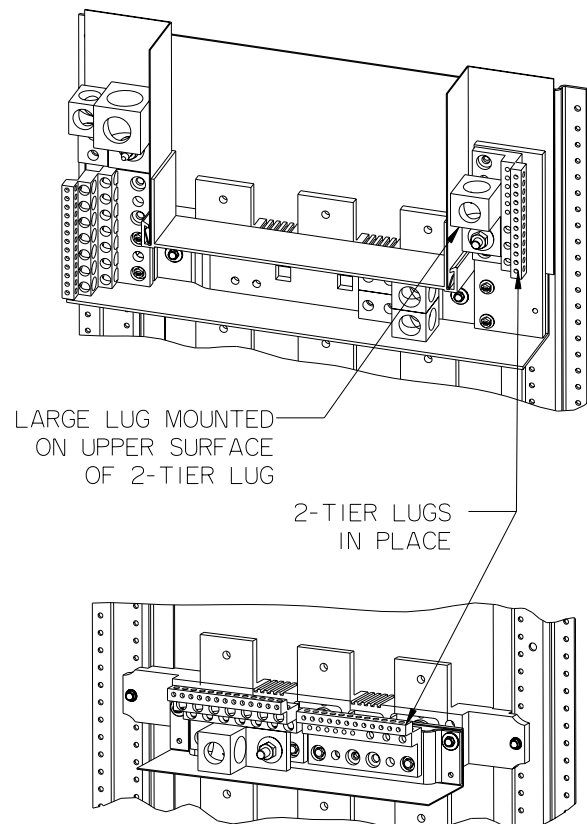

Figure 1
3. Figure 1 shows two typical neutral branch lug arrangements for reference. Other arrangements are possible. Identify the 2-tier branch neutral lug to be replaced.